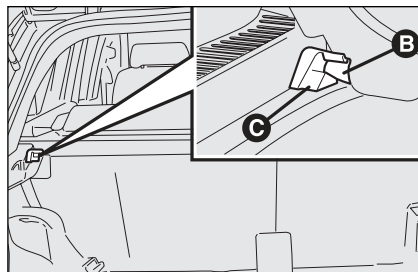

fig. 102
- ☐ release shelf pins **B**-fig. 102 from their housings **C** and remove it.